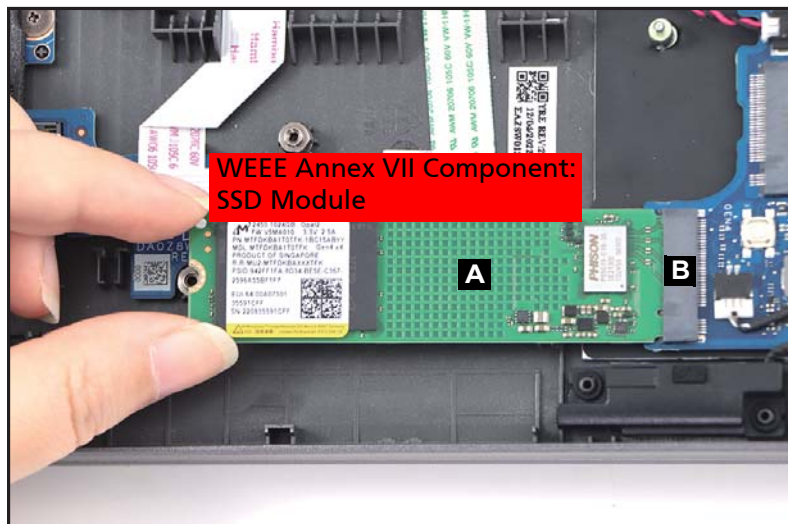

Figure 1-12. SSD Module Removal
2. Disconnect the SSD module (A) from the mainboard connector (B) (Figure 1-12). Then remove the SSD module.